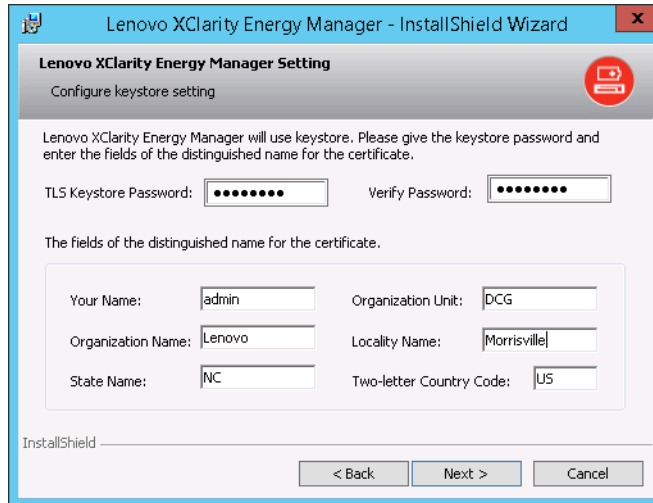

Figure 7-32 Keystore access
9. Energy Manager uses a Java keystore (JKS) to manage security certificates. Set the JKS username and password as shown in Figure 7-32. Click **Next**.